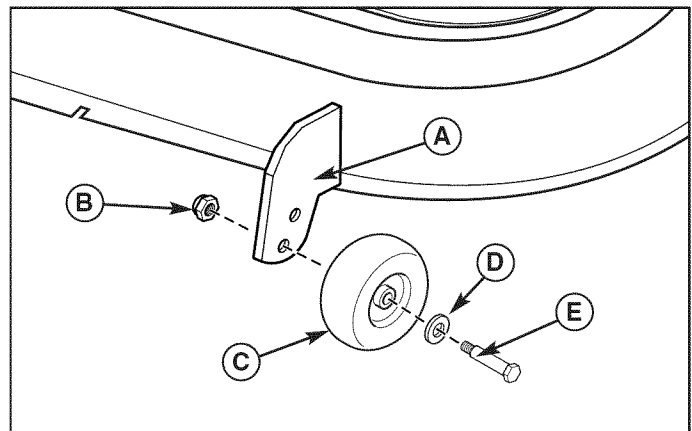

Figure 38. Fixed Bracket Gauge Wheel Adjustment
1. Remove the locknut (B, Figure 38), gauge wheel (C), washers (D), and shoulder bolt (E). Change position of gauge wheel to desired height.
2. Insert shoulder bolt (E) through washers (D) gauge wheel (C), and gauge wheel bracket (A). Secure with locknut (B). Repeat steps 1 & 2 for all gauge wheels.